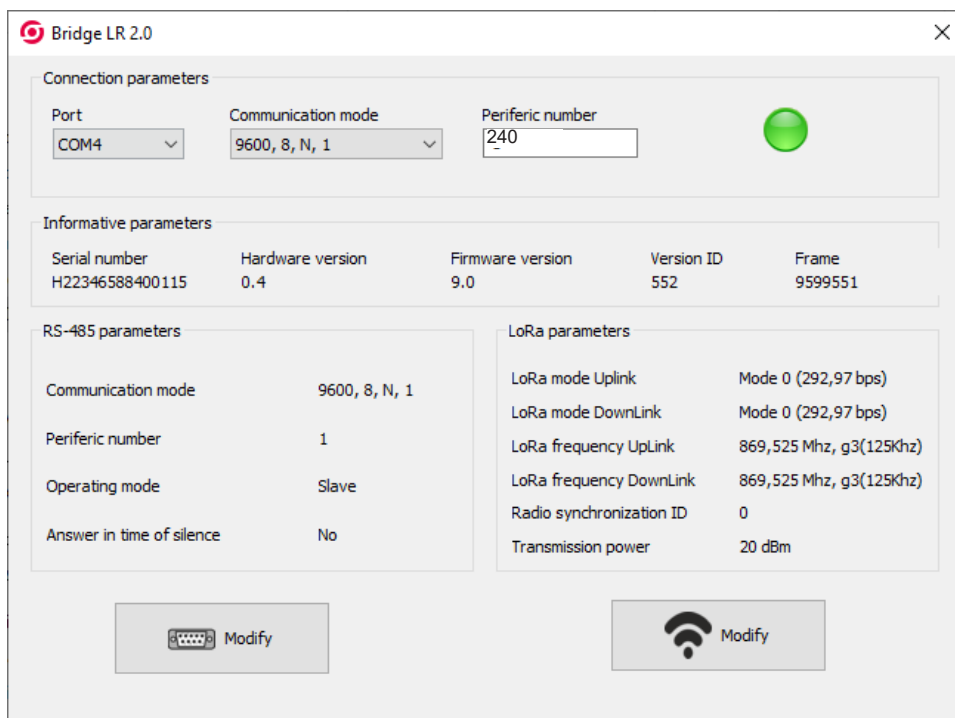

Figure 7: Configuration software: Device connected.
- 4.- Once the device is communicating with the PC, the connection icon turns green, displaying the **Informative parameters** and the default **RS-485** and **LoRaTN parameters** (Figure 7).